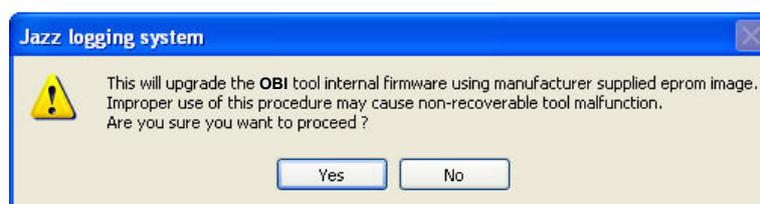

Figure 6-6 Warning Message during firmware upload
2. The following message will appear (Figure 6-6). Click **Yes** to validate your choice.